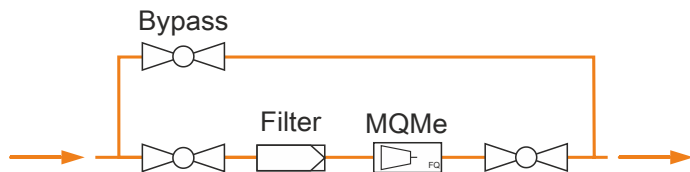
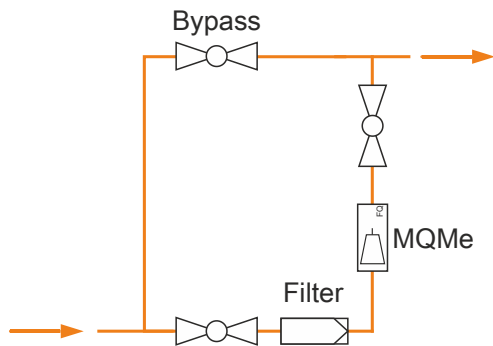

Fig. 2: Recommended horizontal installation of the MQMe, orange arrows indicate gas flow direction
Fig. 3: Typical vertical installation of the MQMe
2. For filling of the gas line, carefully open the shut-off valve directly upstream of the MQMe (Fig. 2 and Fig. 3) until the operating pressure is reached. The rate of increase in pressure should not exceed 350 mbar/s.
4. Carefully open the shut-off valve directly downstream of the MQMe (Fig. 2 and Fig. 3) until the operating pressure is reached.